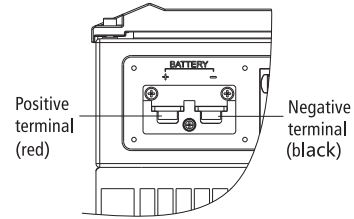
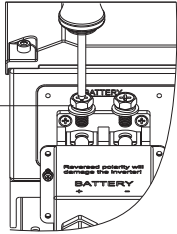
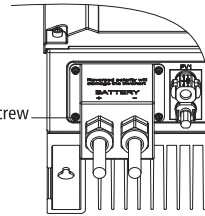

Figure 4.3-5
Figure 4.3-6
Figure 4.3-7
- Put battery terminals into the corresponding holes (Red to the positive terminal; Black to the negative terminal.) and fasten them by screwdriver and spanner (recommended torsion:50~70Kg-f.cm), then fasten battery cover with pan head screws in accessory bag. Refer to Figure 4.3-5, Figure 4.3-6, Figure 4.3-7.